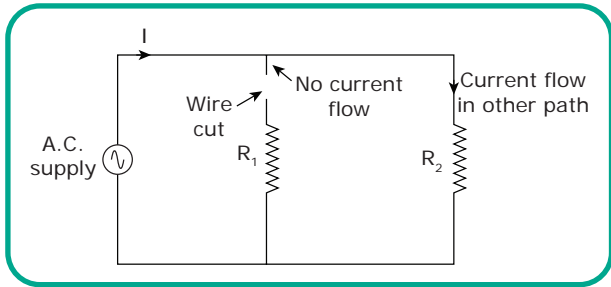

Figure 1.20 Resistor in Parallel - Open circuit
- There will be current flow in other paths, even if any of the paths is disconnected. It is shown in Figure 1.20